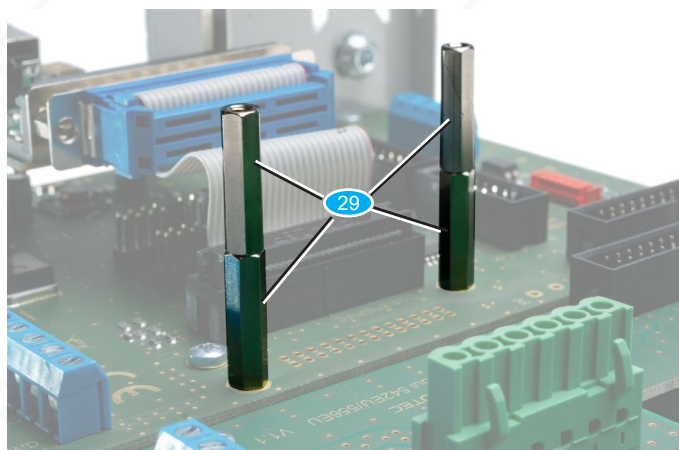

Fig. 13: Double spacers
- First, screw two more spacer nuts onto the still open spacer nuts on the MC Bob (next to the drive module, see Fig. 13), so that the height is doubled.